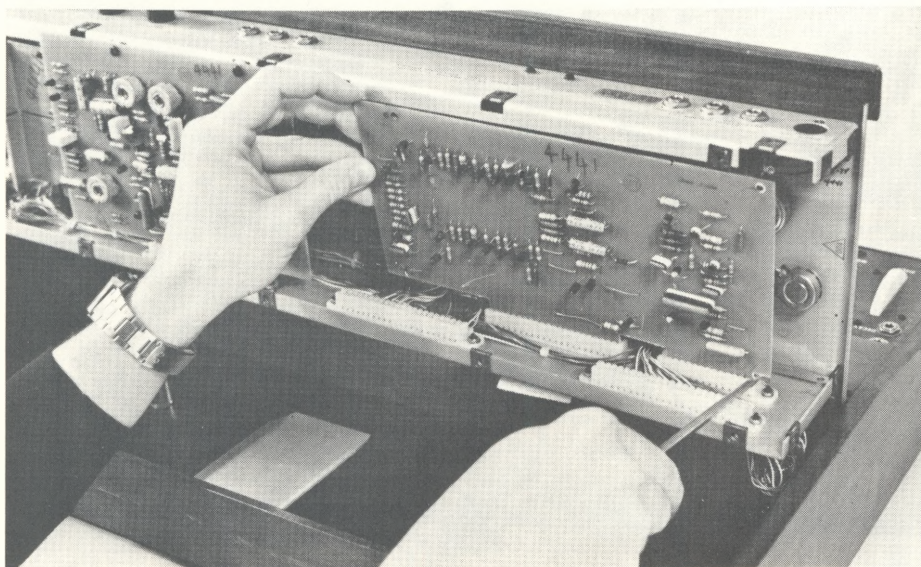

Figure 5
3) With the oscillator board removed, you will see board #2 which contains the envelope generators and keyboard output circuitry. Like the VCO board, board #2 has two screws holding the top edge in place. Remove the two screws, and use the prying screwdriver technique to remove this circuit board. See figure 5. With this board removed, half of the front panel and controls should be visible from behind.